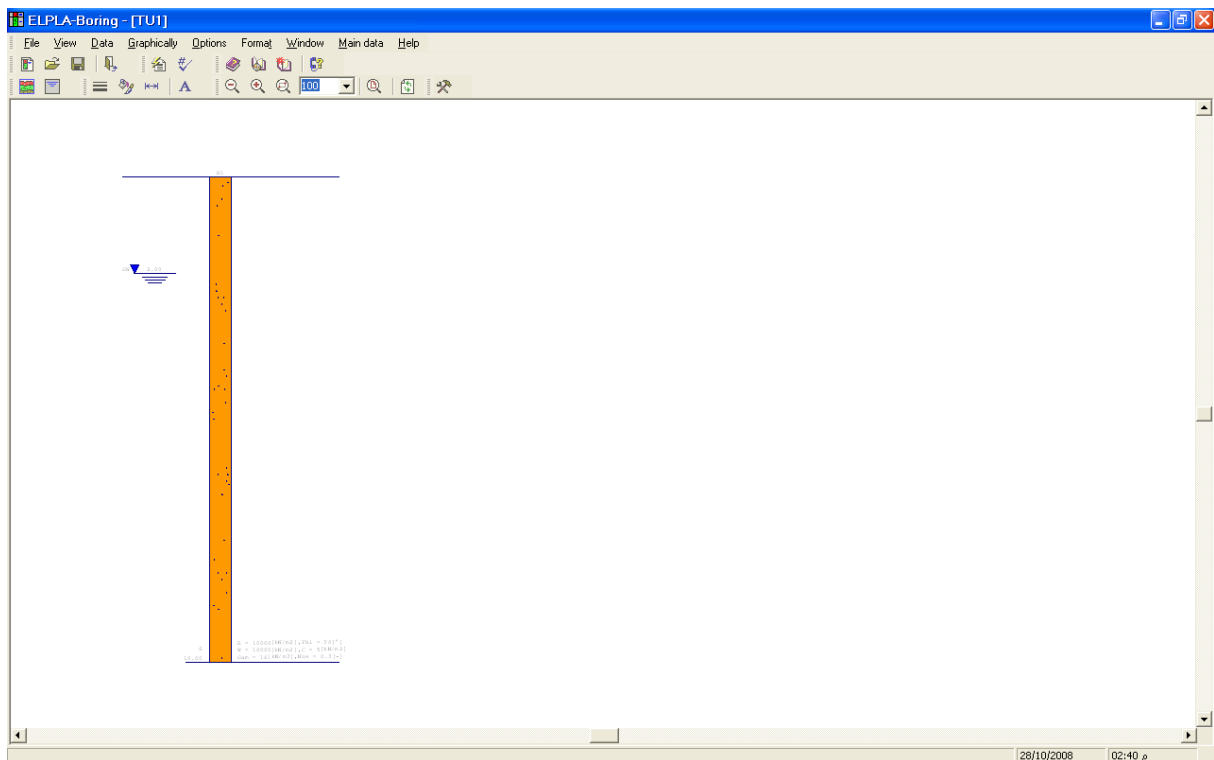

Figure 13-22 *ELPLA-Boring* sub program with a default-boring log
To define the soil properties, choose "Soil properties" command from "Data" menu of *ELPLA-Data*. The following sub program in Figure 13-22 appears with a default-boring log.
In Figure 13-22, soil properties are defined through the "Data" menu which contains the following two commands:
- Choose "Soil data" command from "Data" menu in the window of Figure 13-22. The following dialog box in Figure 13-23 with default-boring log data appears